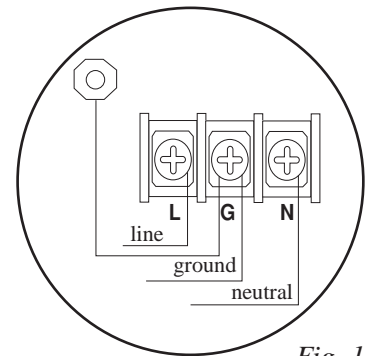

Fig. 1
1. Mount the unit in desired location. Mark and predrill holes in the wall to line up with the top two keyholes in the enclosure. Install two upper fasteners and screws in the wall with the screw heads protruding. Place the enclosure's upper keyholes over the two upper screws, level and secure. Mark the position of the lower two holes. Remove the enclosure. Drill the lower holes and install the two fasteners. Place the enclosure's upper keyholes over the two upper screws. Install the two lower screws and make sure to tighten all screws (*Enclosure Dimensions, pg. 8*). Secure enclosure to earth ground (*Fig. 1, pg. 3*).
2. Connect the line (L), ground (G), and neutral (N) terminals to a separate unswitched AC circuit (120VAC, 60Hz) dedicated to the Fire Alarm System.
4. Connect battery to terminals marked [+ BAT -] on the Power Supply Board (battery leads included). Use two (2) 12VDC batteries connected in series.